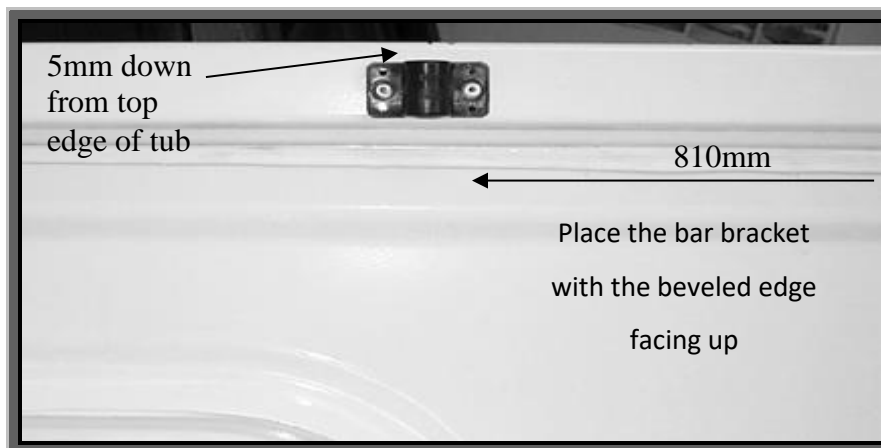

Figure 1
1. To fit bar brackets measure 810mm back from the inside front edge at the top of the tub and place them as shown in (5mm down from top edge of tub). Drill and rivet using two large rivets for each Bar Bracket. Install support bar according to supplied instructions. **See Figure 1**